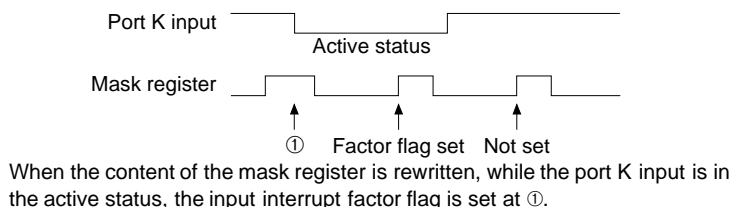

Fig. 6.1.5.1 Input interrupt timing
For example, a factor flag is set with the timing of ① shown in Figure 6.1.5.1. However, when clearing the content of the mask register with the input terminal kept in the low status and then setting it, the factor flag of the input interrupt is again set at the timing that has been set.